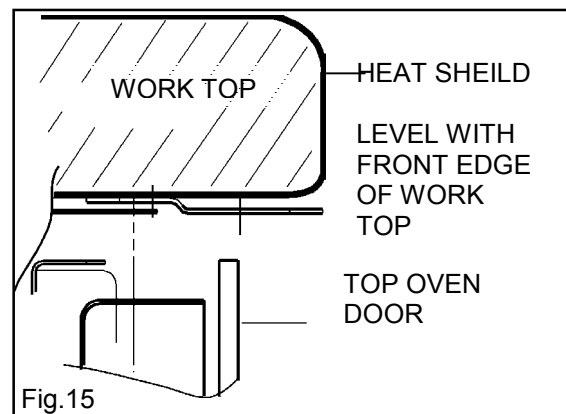
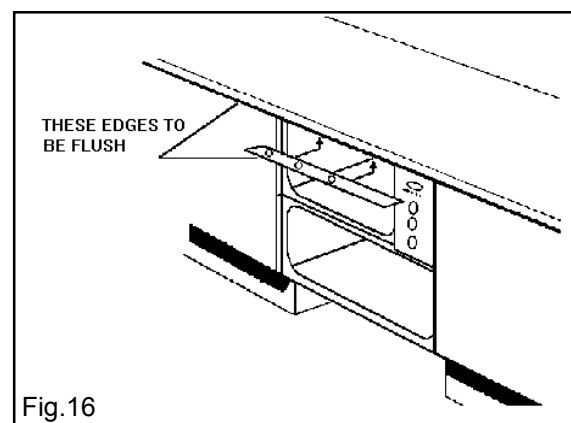

Fig.15
Fig.16
- Place the heat deflector flush with the edge of the worksurface, (see Fig.15) with the cork spacers upover (see Fig.16) and screw into position using the screws supplied with the appliance.